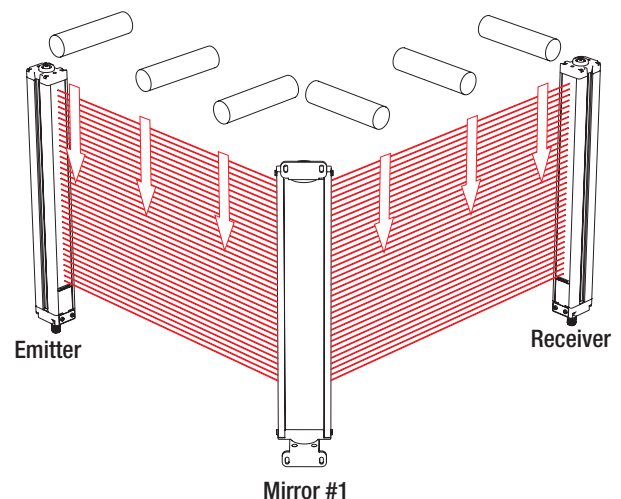

Figure 2. EZ-SCREEN System trip test for corner mirror applications
- *If corner mirrors are used in the application*, the beams must be tested in three places on each leg of the beam path (between emitter and mirror, and also between mirror and receiver, Figure 2).